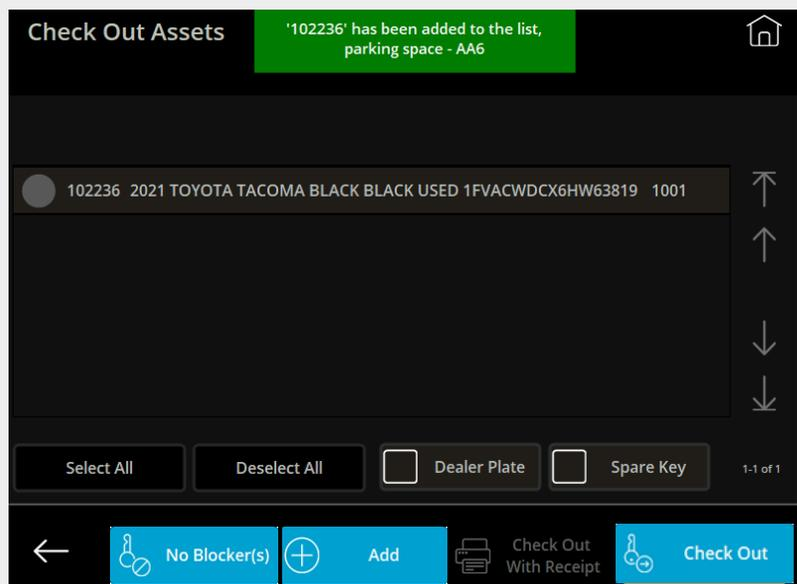

Fig. 59 – Check Out Assets screen with Smart Tag asset results
- 🔑 If there is vehicle associated with the Smart Tag, the details are displayed on the screen, as shown in Fig. 59.